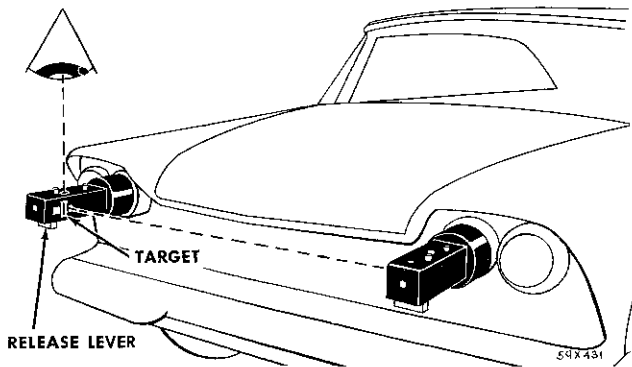

Fig. 41—Mounting and Adjusting Aimers (Typical)
**c. Mounting and Adjusting the Aimers (Fig. 41)**
(1) While holding an aimer in alignment with the lens of one outboard headlamp, bring aimer up to and against headlamp lens.
(2) Push the release lever forward (to expel air from suction cup) and while holding the aimer firmly against the headlight aiming pads, slowly pull the release lever back until the spring lock engages in the slot.
(3) Mount the second aimer on the other outboard headlamp, in the same manner.
(4) On each aimer, set pointer to numeral 2 on the DOWN side of the DOWN UP scale.
(5) On each aimer position the pointer of the RIGHT LEFT scale at ZERO.